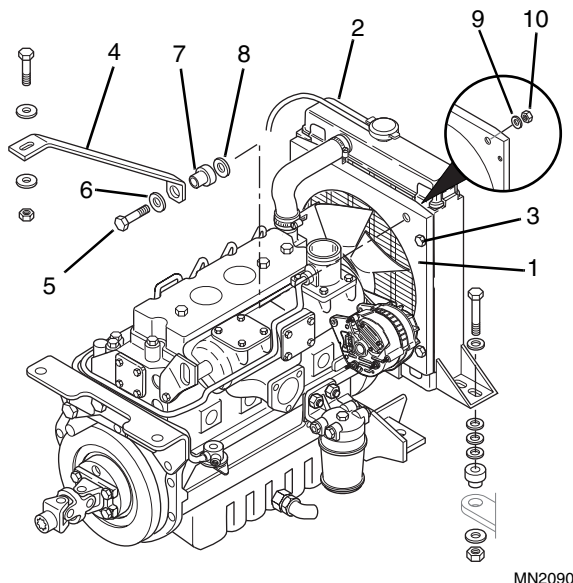

Figure 10-37 Radiator Installation
3. Install the shroud (Fig. 10-37, 1) to the radiator (2), and secure using the original hardware (3).
4. Position the radiator assembly (Fig. 10-37, 2) on the vehicle.
7. Loose install the upper radiator support (Fig. 10-37, 4) to the radiator shroud (1), using a capscrew (5), rebound washer (6), isolator (7), rebound washer (8), flat washer (9), and a new hex elastic locknut (10).